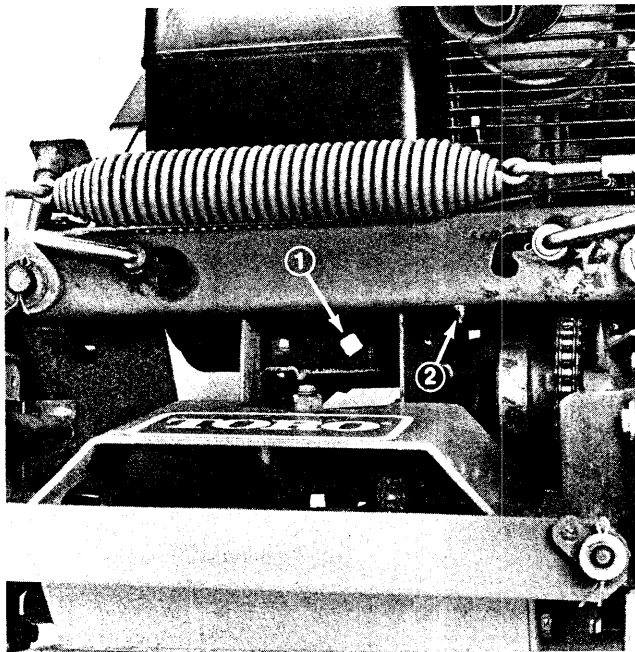

Figure 22
1. Place an oil drain pan below the drain plug on front of crankcase (Fig. 22). Clean area around drain plug.
2. At bottom of front frame, remove wing nut securing front shroud mounting rod (Fig. 22).